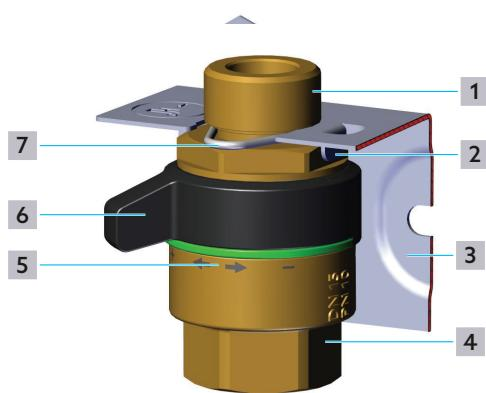

Fig. 1: Design of the connection and shutoff set
The upstand in the retaining plate ((2) in Fig. 1 on page 14) facilitates the installation of the valves. Align the hexagon on the valve so that you can insert the valve along the upstand into the retaining plate (see Fig. 1).